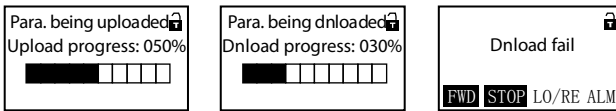

Figure 5-10 Parameter upload, download shows
The operation panel uploading and downloading display is as shown in Figure 5-10.
1. If parameter download fails, "parameter download failed" will be displayed, as shown in Figure 5-10, indicating that the operation panel EEPROM memory parameters do not match the current drive function parameters. The correct function code settings must be uploaded to the operation panel EEPROM, then download. h